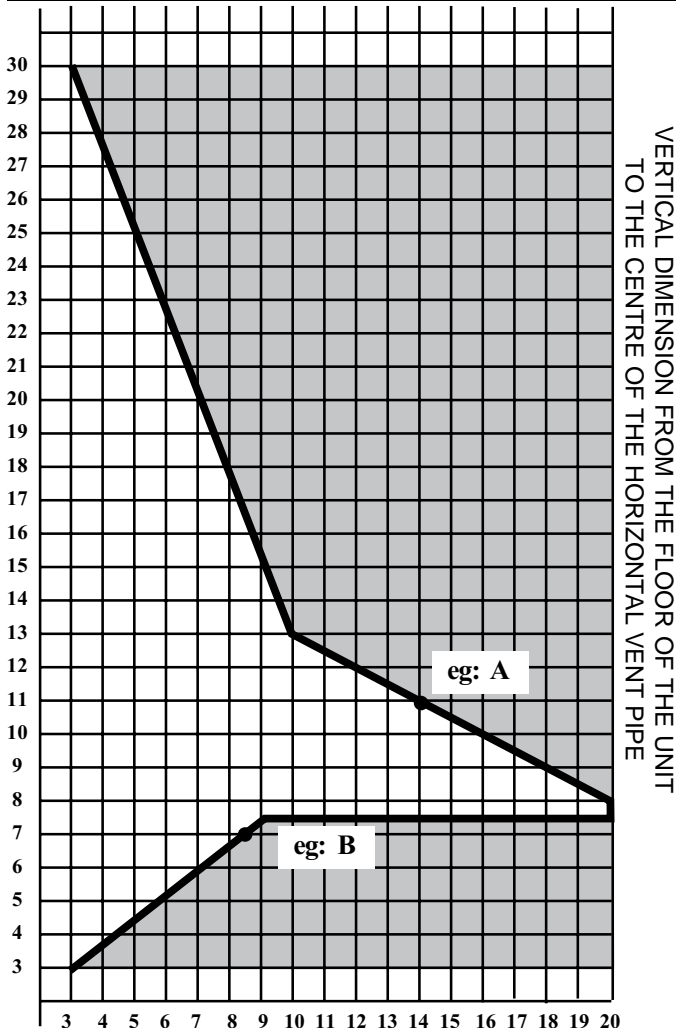

Fig. 39
The graph showing the relationship between vertical and horizontal side wall venting will help to determine the various vent lengths allowable. Fig. 39.
1. Determine the height of the centre of the horizontal vent pipe exiting through the outer wall. Using this dimension on the Sidewall Vent Graph (Fig. 39), locate the point it intersects with the slanted graph line.